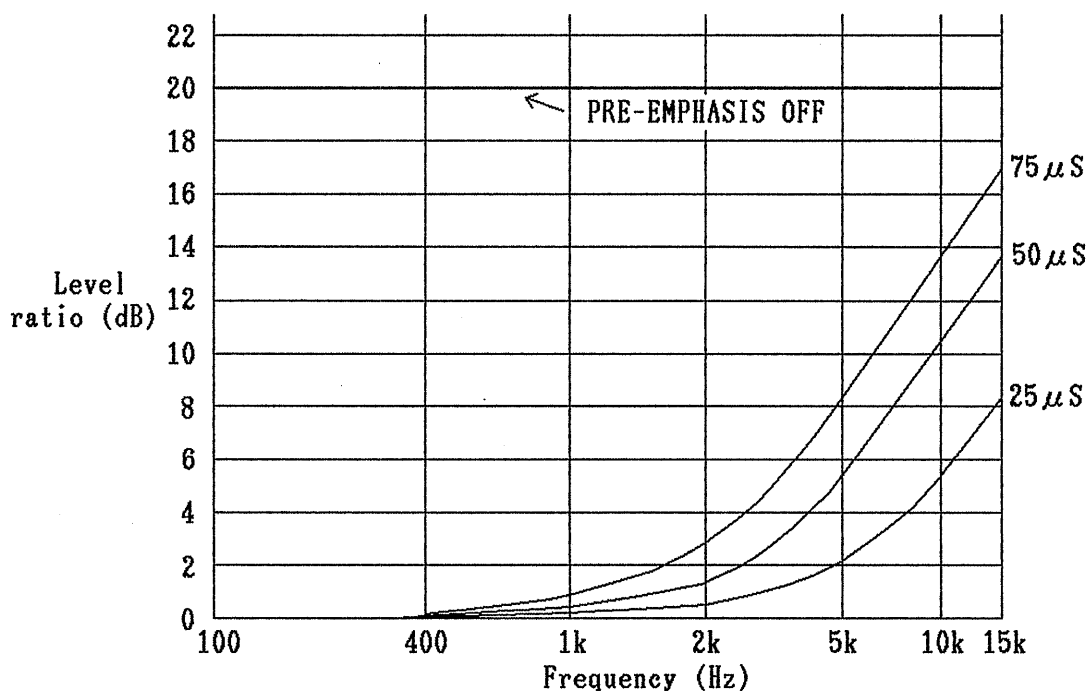

Figure 4-3. Standard Pre-emphasis Characteristics
Pre-emphasis characteristics can be added by means of the ⑭ **YE**, ⑫ **25 μ s**, **50 μ s**, **75 μ s** keys. Standard pre-emphasis characteristics are shown in Figure 4-3. The 20dB line in Figure 4-3 shows the mode when pre-emphasis is off. As pre-emphasis is added, the flat lower region under 400Hz is 20dB lower. Pre-emphasis operates with stereo, monophonic, internal modulation and external modulation. Regarding modulation level indication, for monophonic modulation level 100%, 10% is indicated. For stereo modulation level 90%, the indicator becomes 9% indication + pilot level 10% = 19%. When in the FMX mode of operation, the indication becomes 18% + 1%(ID) = 19%.